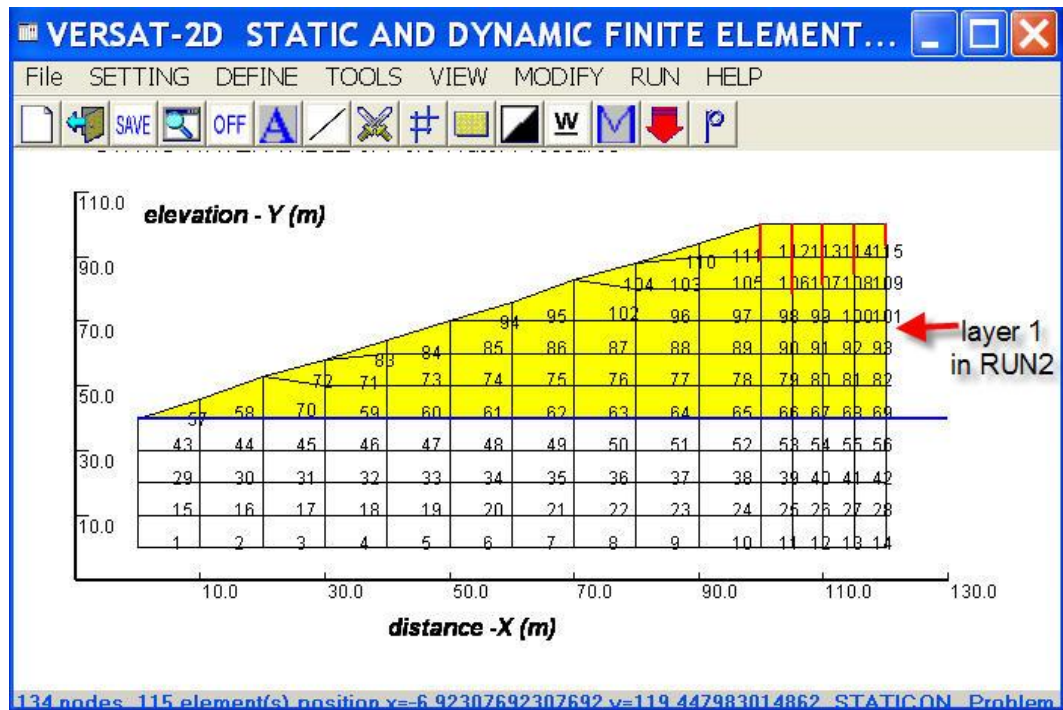

Figure 3.5 A window showing layers and loads for Run 2
- Refresh the model using “Show layers by color” and “Show load vectors” as shown in Figure 3.5